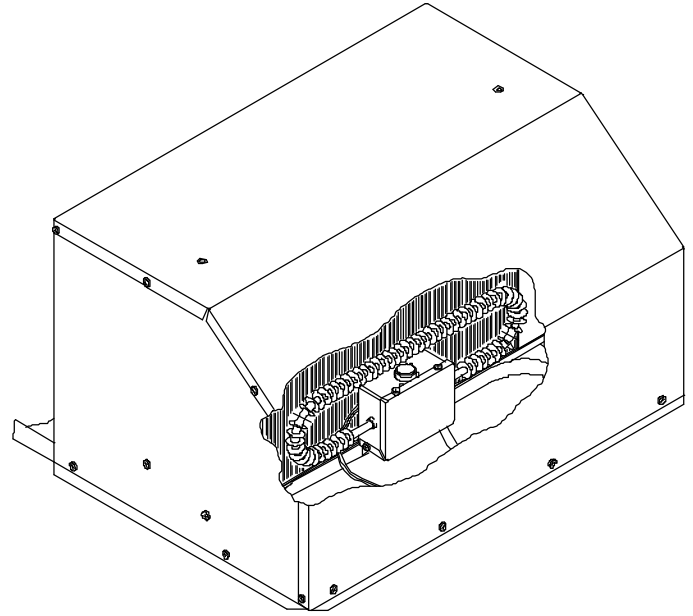
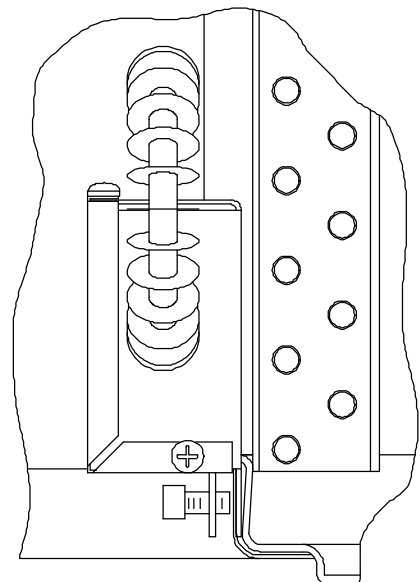

FIGURE 10
FIGURE 11
- C. Remove the heater assembly from the ceiling assembly chute. Position the heater assembly in the heat pump return air opening as shown in Figure 10. The heater bracket must be installed over the metal basepan extrusion and positioned between the basepan and the plastic drain pan (See Figure 11). Tighten set screw to secure the assembly so as to prevent movement.